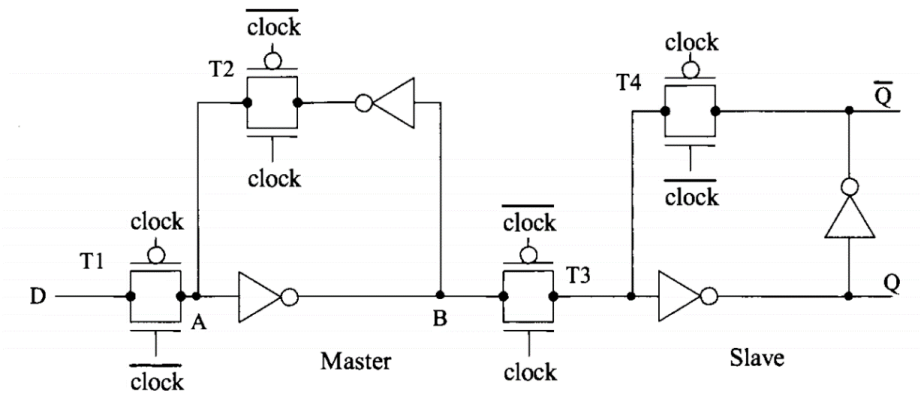

Figure 13.22 An edge-triggered D-FF.
5. Build a TG based DFF (edge triggered) in ElectricVLSI. Run the simulation to verify the logic. Layout the circuits using ElectricVLSI, run DRC and NCC checks. (Refer to Figure 13.22 on Page 387 of the CMOS book). (20 points)